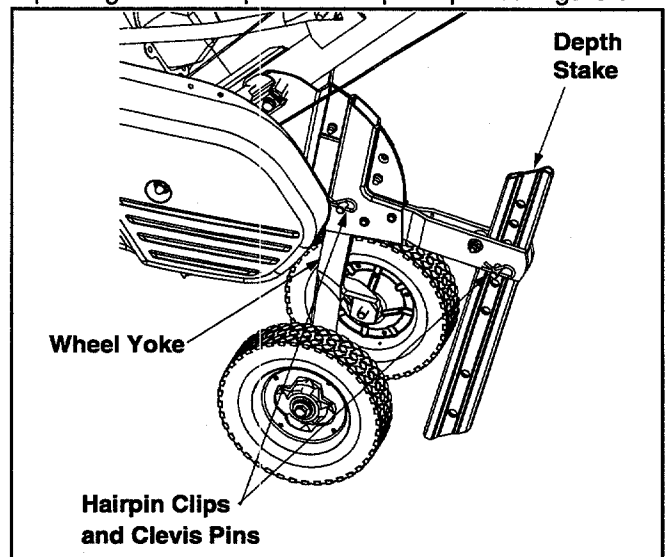

Figure 6
The tiller is shipped with the wheels adjusted such that the unit sits level. While tilling, as the tines enter the ground and the front of the tiller lowers, the wheels must be raised to level the unit, which is essential for proper engine operation. This adjustment is made by removing the clevis pin and hairpin clip from wheel yoke, raising the wheels to the desired height, and replacing the clevis pin and hairpin clip. See Figure 6.
**Depth Stake Adjustment:** The depth stake acts as a brake for the tiller and controls the depth and speed at which the machine will operate. Remove the clevis pin and hairpin clip to raise or lower depth stake. Refer to Figure 6.